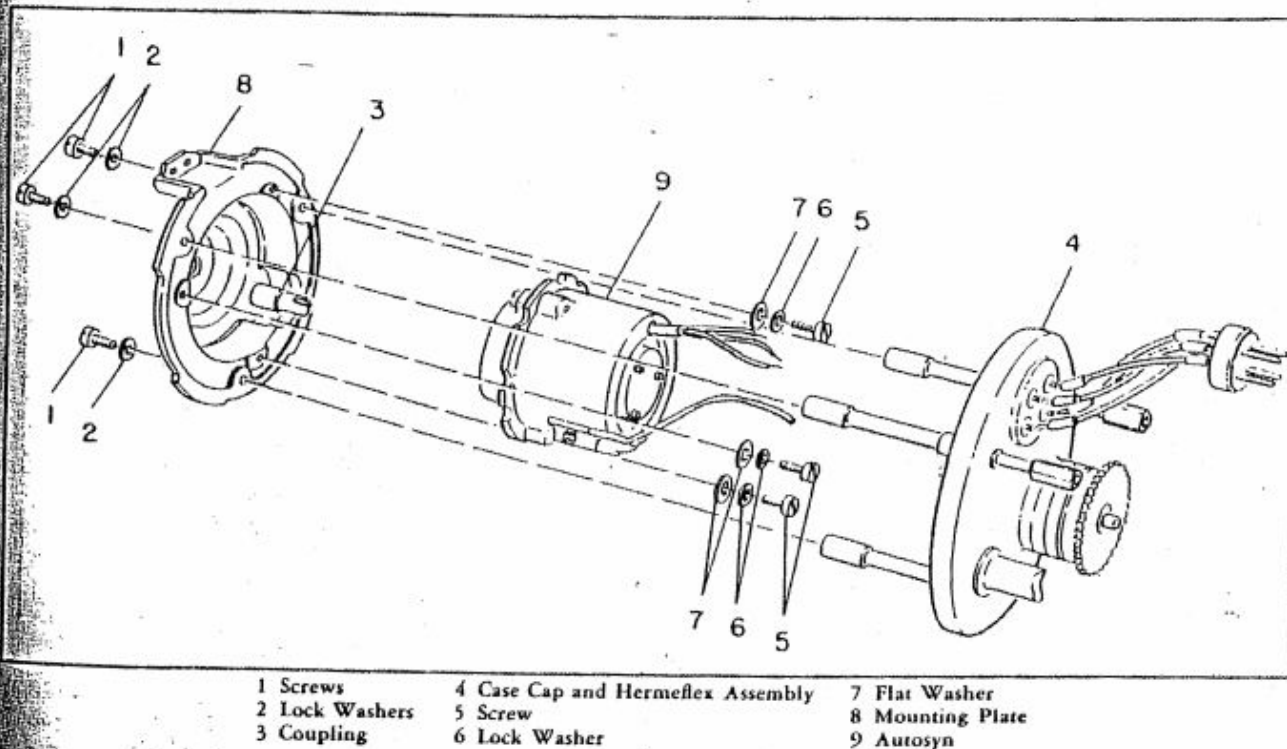

Figure 5-71. Removal of Autosyn
1. To remove the autosyn, remove the three screws (figure 5-71, reference 1) and lock washers.
1. Place the autosyn (figure 5-71, reference 9) in position in the mounting plate (reference 8) and secure it with the three screws (reference 5), three lock washers (reference 6) and three flat washers. (See reference 7.)